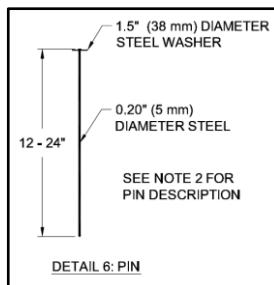

Figure 4: Securing Pin
3. Secure PYRAMAT with pins in the COS trench. Pins should be made of steel with a 0.20 in (5 mm) minimum diameter, having a 1.5 in (38mm) diameter washer at the head, and a length between 12 and 24 in (300-600 mm) with sufficient ground penetration to resist pullout (Figure 4). Longer pins may be required for looser soils. Heaver metal stakes may be required in rocky soils. Suggested placement of pins for the COS trench is along the bottom of the trench with pins on 12 in (300 mm) centers. Pins should also be installed on panel edge overlaps in the COS trench.